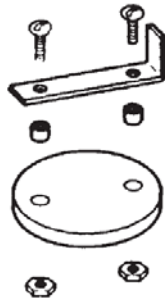

Figure 7
- Suggest and justify the suitable modifications on the design of the following components as shown in figure 7 to ensure proper assembly with minimum effort.